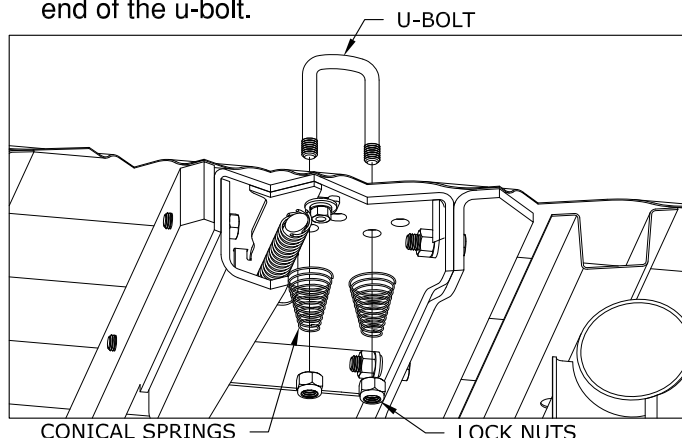

Figure G3: Cut away view of bed and center section
- 3. Add springs.** Place a conical spring over each leg of the u-bolts and secure with a $\frac{1}{2}$ " lock nut, see Figure G3. Tighten the lock nut until the nut is flush with the end of the u-bolt.